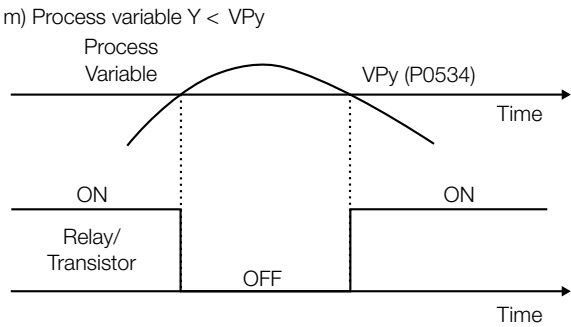

Figure 5.37 – (a) to (m) - Details on the operation of the digital output functions
- Refer to Table 5.42 on page 5-60 and the Figure 5.37 on page 5-62 for more details regarding the digital outputs and relays.